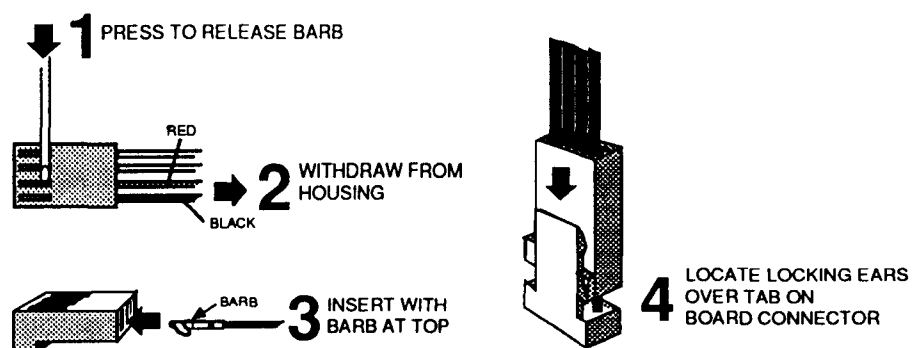

Fig. 7 : Removing/inserting LED wires in the LED/speaker connector
- 11 Using a small electrical screwdriver or similar, depress the barbs on the LED wire contacts in the LED/speaker connector (red and black wires) and withdraw the contacts from the connector, noting the polarity of the LED wires (see Fig. 7, steps 1 and 2). Place the old front sub-moulding to one side.
- 13 Insert the LED wire contacts into the LED/speaker connector so that the barbs on the contacts engage in the slots in the connector housing (see Fig. 7, step 3). Observe correct polarity – make sure that the red and black wires are the correct way round, as shown in Fig. 7, step 2.
- 20 Plug the LED/speaker connector to PL9 on the main board, ensuring that the locking ears on the connector locate either side of the locking tab on the board-mounted connector (see Fig. 7, step 4).